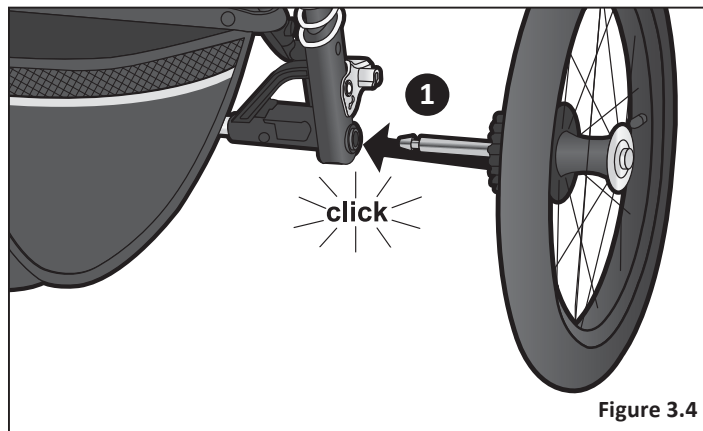

Figure 3.4
- 1 Push rear wheel into hole until it clicks into place. Pull on wheel to make sure it is secure. Repeat on other wheel. **Figure 3.4**